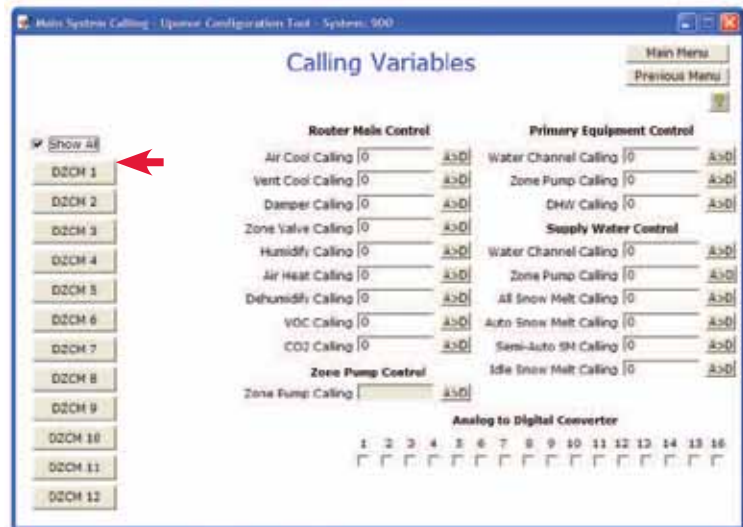

Figure 4.1-6: Calling Variables Window
- Click the **Calling Variables** button to display the Calling Variables window, shown in **Figure 4.1-6**. All DZCMs that are detected and communicating on the network will appear on the left side of the Calling Variable screen. In this example, the Show All box is checked to display buttons for all 12 potential DZCMs, whether or not they are connected for the particular installation.